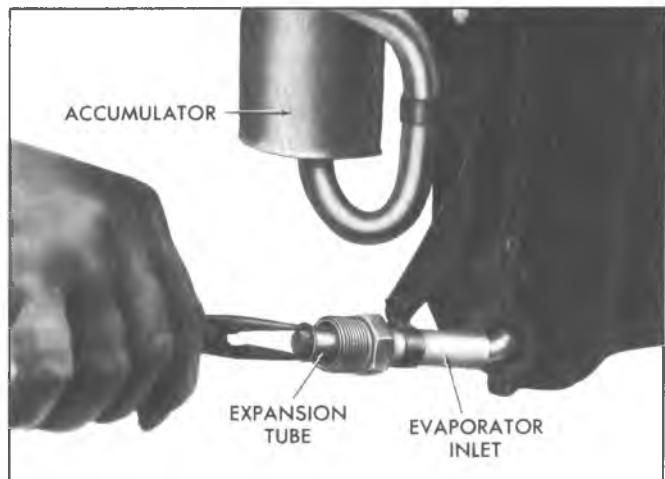

Fig. 60--Expansion Tube (C-K Four-Season System)
### Replacement (Fig. 60)
3. Using needle-nose pliers, remove the expansion tube from the evaporator core inlet line (fig. 60).